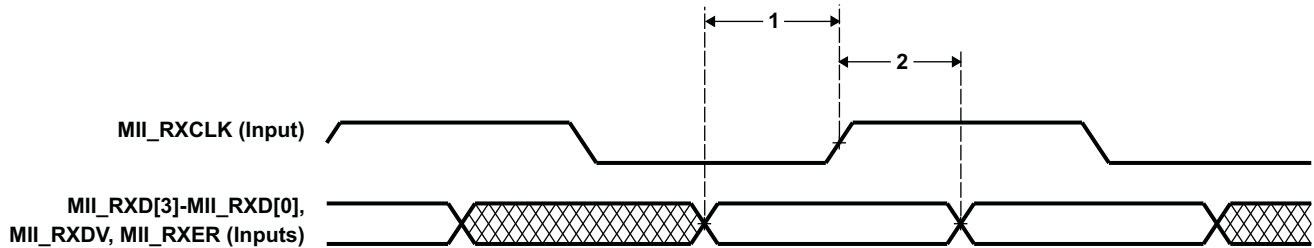

**Figure 6-48. MII\_TXCLK Timing (EMAC - Transmit)**
**Table 6-99. Timing Requirements for MII\_TXCLK (see Figure 6-48)**